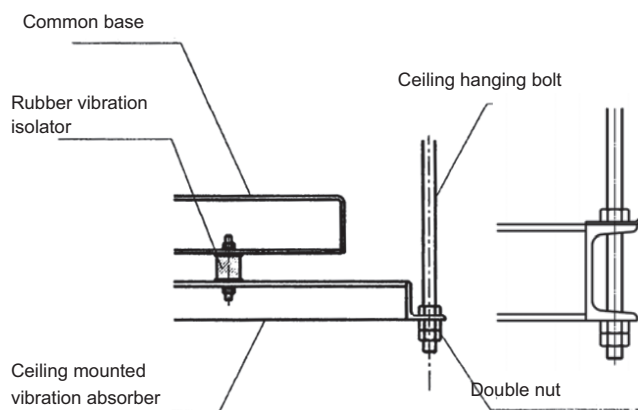

Figure 3 – Installation example of a ceiling mounting type
- (1) By connecting the fan's base to the hanging bolts that are embedded in the ceiling, horizontally suspend the fan. Ensure that the load of the fan is evenly distributed among all the hanging bolts.
- (2) Be sure to use hanging bolts that are strong enough to sustain the load (in terms of the strength of the bolt itself as well as the pre-installed condition).
- (3) After you have installed the fan, lock the nut on each hanging bolt to prevent them from coming loose.
- (4) To make the fan earthquake-resistant, firmly install the fan onto a section steel frame fixed onto a building structure.
- (5) As shown in Figure 3, firmly fix the ceiling mounted vibration absorber base onto the ceiling hanging bolts. To prevent the unit from vibrating horizontally, install a vibration isolator bracket at an angle onto each ceiling hanging bolt using a continuous-thread stud, turn buckle, or other parts.